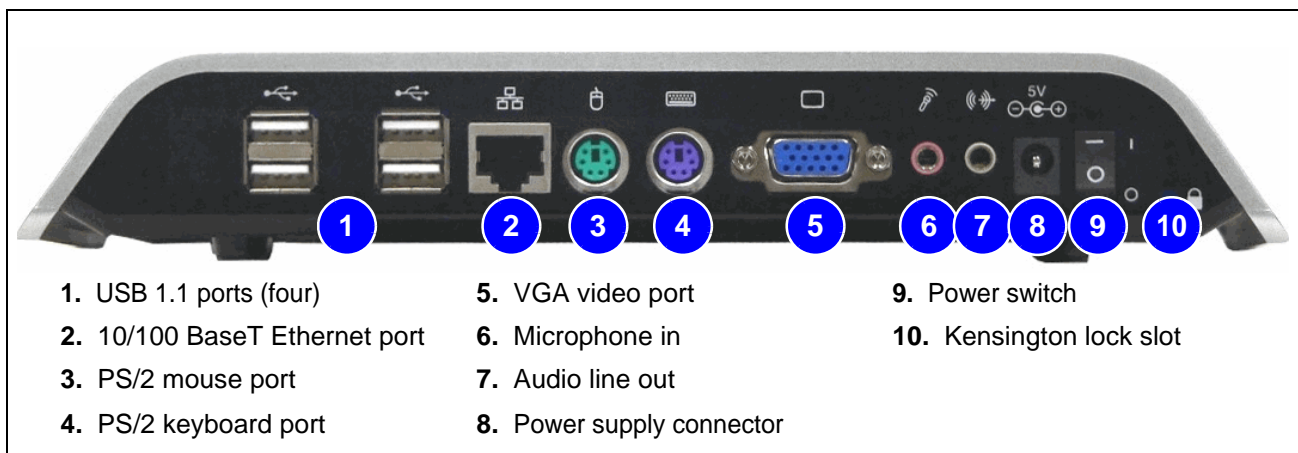

Figure 6. I8330 I/Port Connections
- I8330 I/Port—Figure 6 on this page